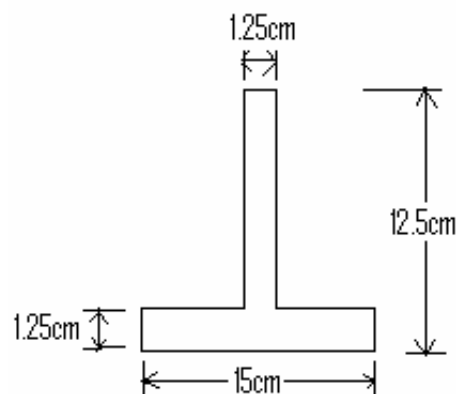

Figure.3
- b) Find the position of the C.G. and calculate the I_{xx} , I_{yy} and sectional modulus (Z) along x-x and y-y axis for a 150mm × 125mm × 12.5mm inverted Tee section as shown in figure.3. [8+7]